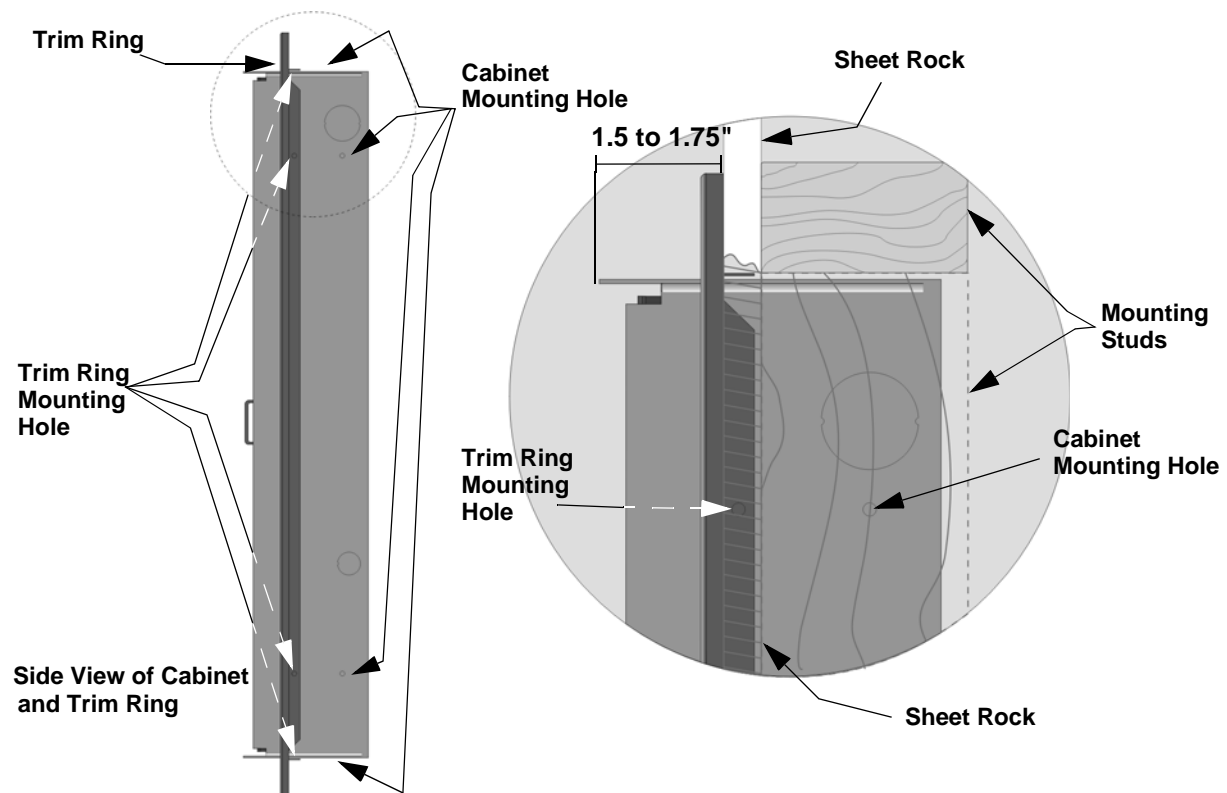

Figure 3-9 Detail of Flush Mounting with Trim Ring
2. Cut a recess hole. There should be 1.5" to 1.75" of cabinet extruding from the wall, this should be measured from either the top edge or bottom edge to the exterior side of the sheet rock. (See Figure 3-9.)